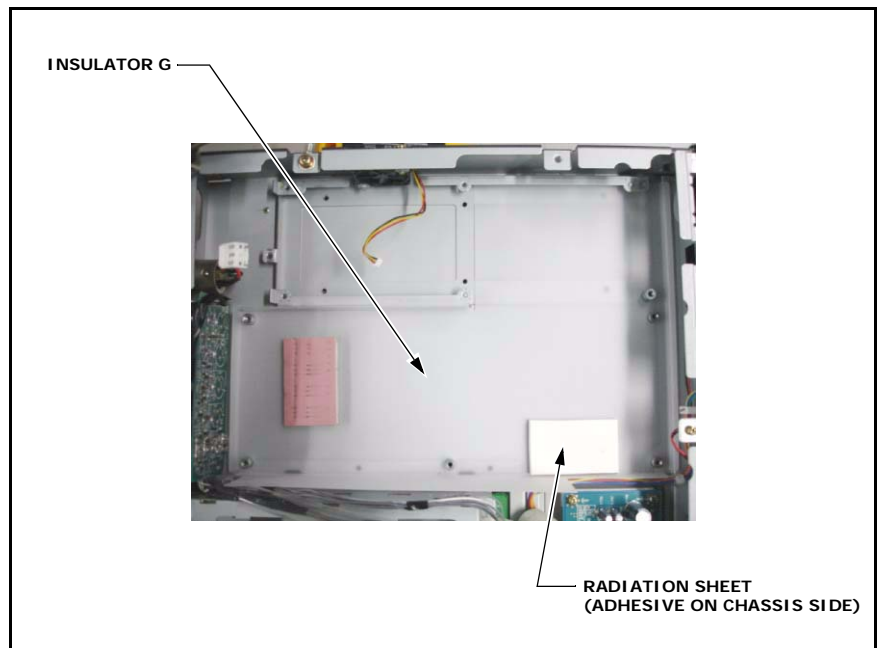

Figure 4
7. Replace the insulator G installed under the G and G2 boards with a new one, and add a radiation sheet. (See Figure 4.)